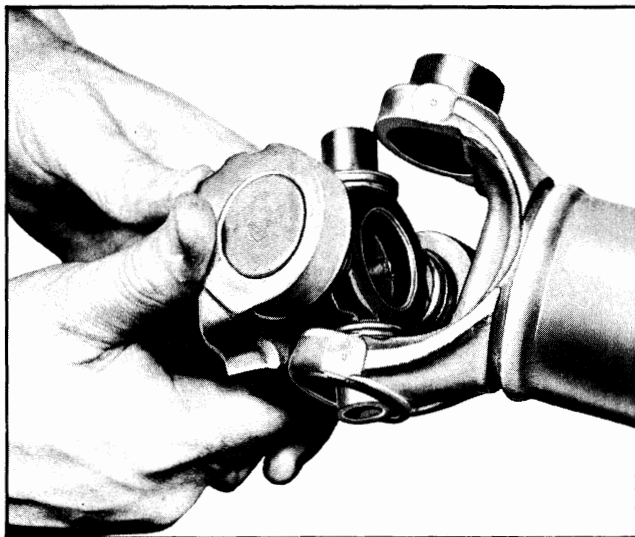

Fig. 4A-10 Installing Journal (Typical)
2. Insert journal into yoke. Fig. 4A-10.
5. Install snap rings with gap towards yoke. Fig. 4A-11.